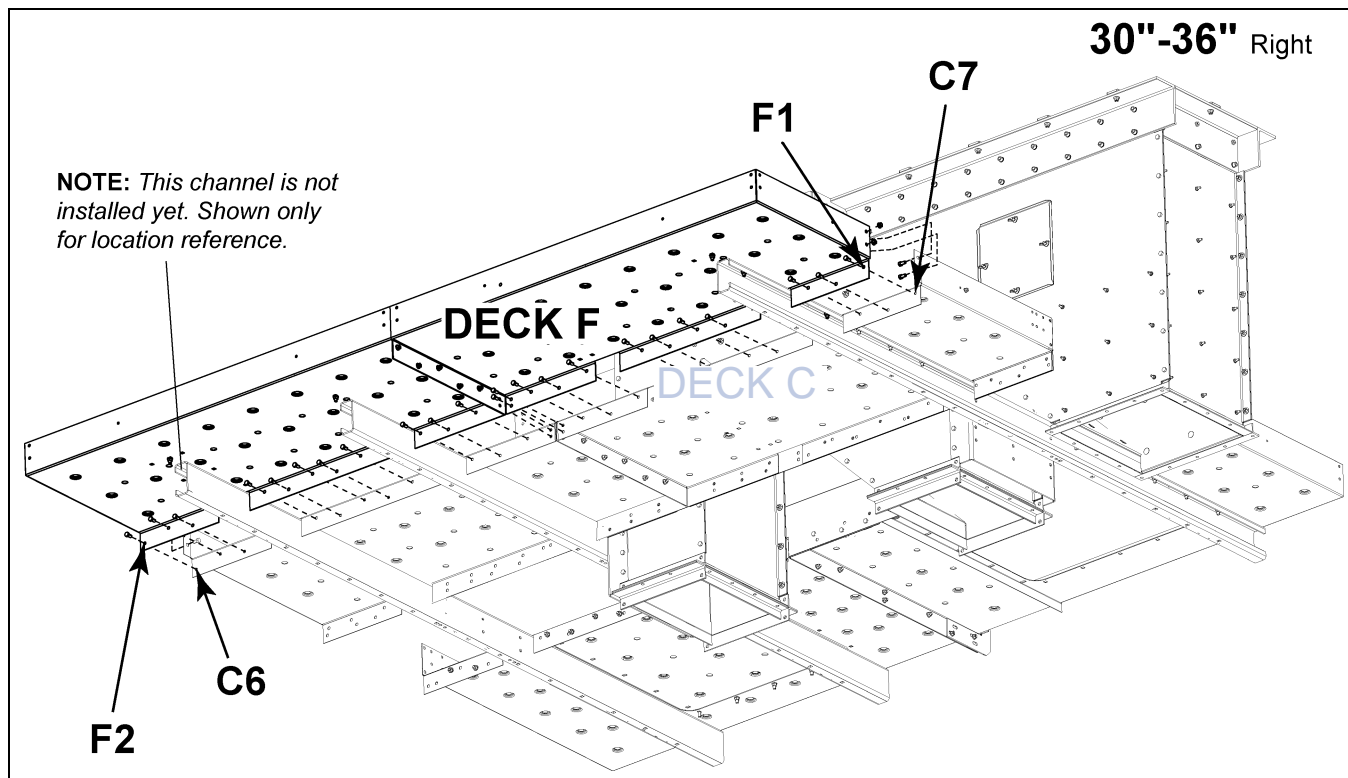

Figure 8M Deck F to Deck C
- b. F Deck hole **F1** to C deck hole **C7**. (See Figure 8M.)